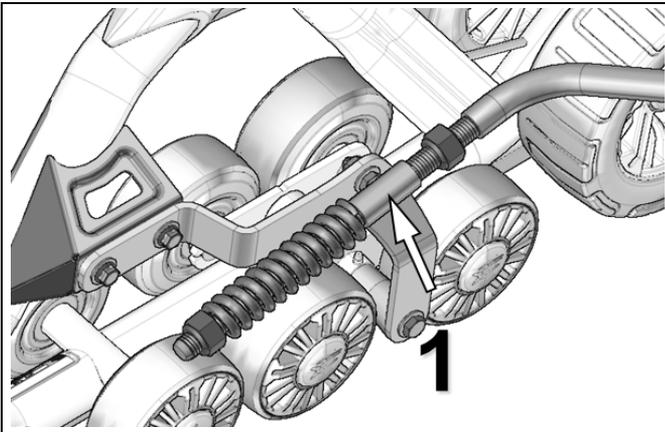
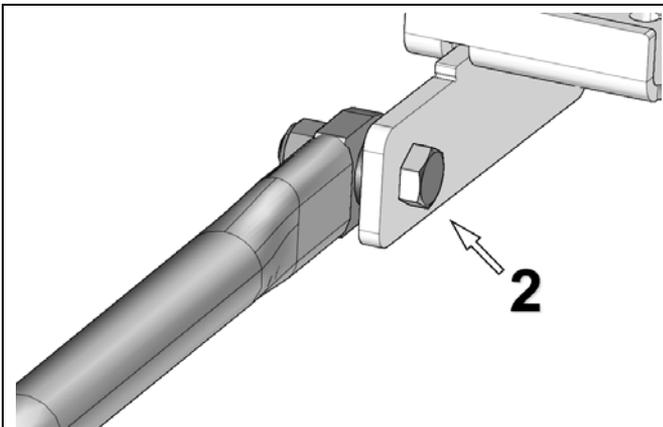

Figure 6
Figure 7
- Stabilizing arm (1) must be attached to Track System and to rear anchor bracket (2) installed on vehicle. See Figure 6 and Figure 7.